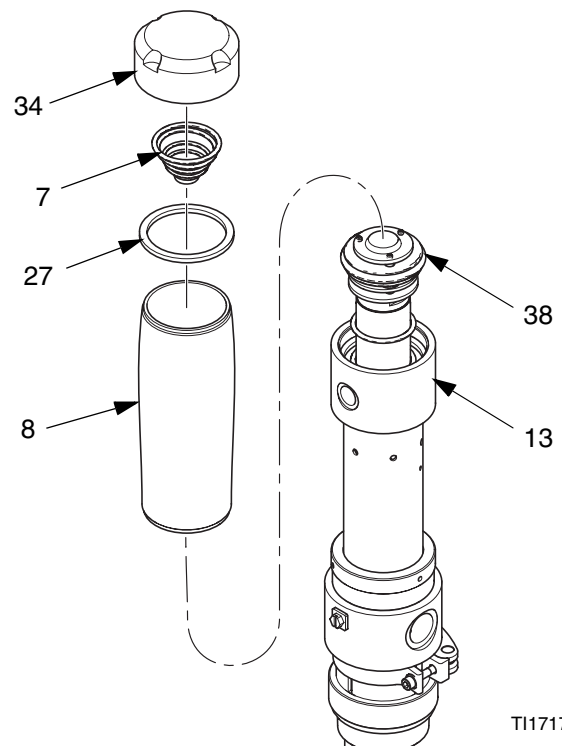

FIG. 10
1. Unscrew the cylinder cap (34) from the cylinder (8). To remove the spring (7), pry gently under the coils in the direction of the helix. Inspect the spring (7) and gasket (27) for wear or damage; replace if necessary. See FIG. 10.
2. Unscrew the cylinder (8) from the air motor base (13) and lift the cylinder straight off the air piston (38). Unscrew by hand or use a chain wrench to prevent distortion of the cylinder's shape. See FIG. 10.
3. Reinstall the spring (7) and gasket (27) on the cylinder cap (34) and screw the cap onto the cylinder (8). Screw the cylinder into the air motor base (13). See FIG. 10.